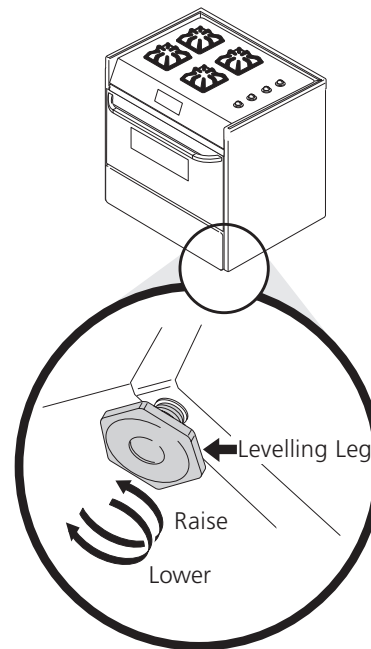

Figure 15
2. Place a level on the rack. Take 2 readings with the level placed diagonally in one direction and then the other. Level the range, if necessary, by adjusting the 4 leg levelers with a wrench (see Figure 15).
4. Level range if necessary, by adjusting 4 leg levelers with wrench (see Figure 15). A minimum clearance of 1/8" (0.8 cm) is required between the bottom of the range and the rear leg levelers to allow room for the anti-tip brackets.